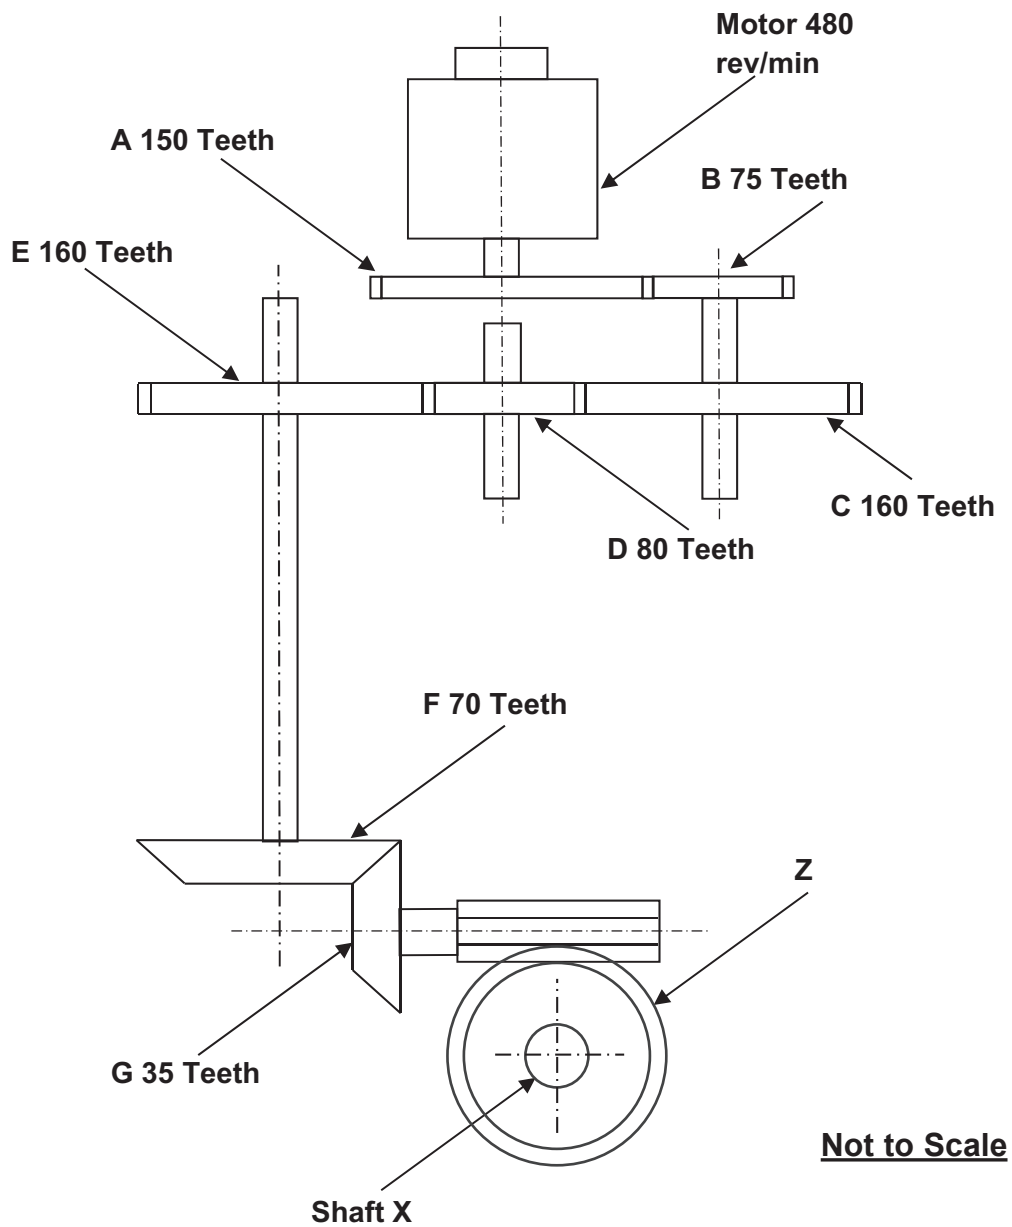

Fig. 12
- 4 Fig. 12 shows a prototype mechanical system used to provide rotary motion to **Shaft X**.